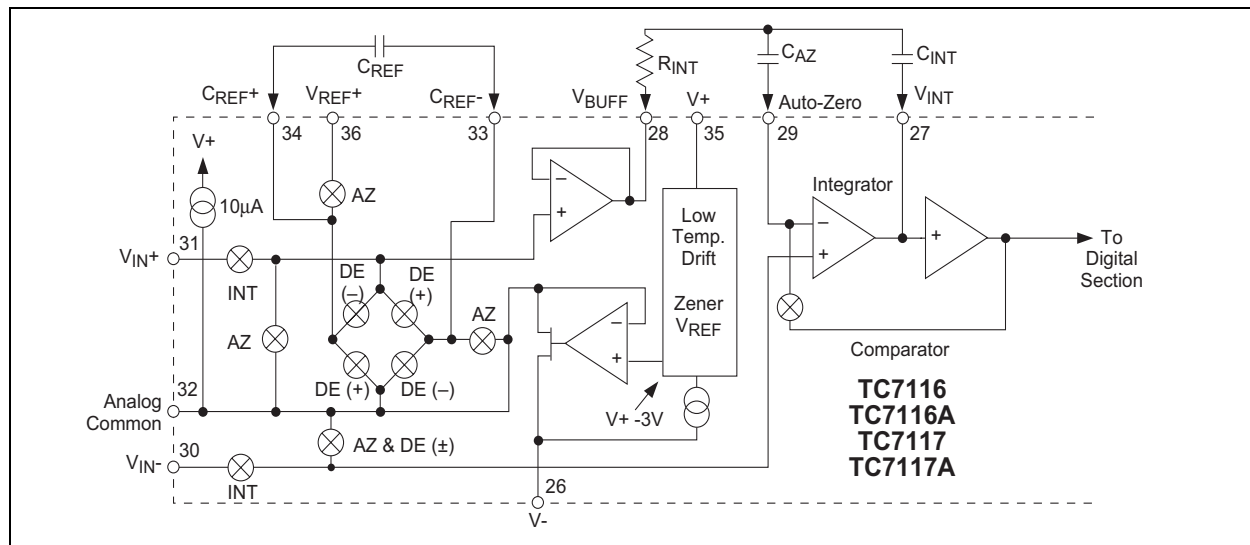

FIGURE 3-1: Analog Section of TC7116/TC7116A and TC7117/TC7117A
Figure 3-1 shows the block diagram of the analog section for the TC7116/TC7116A and TC7117/TC7117A. Each measurement cycle is divided into three phases: (1) Auto-Zero (AZ), (2) Signal Integrate (INT), and (3) Reference Integrate (REF), or De-integrate (DE).